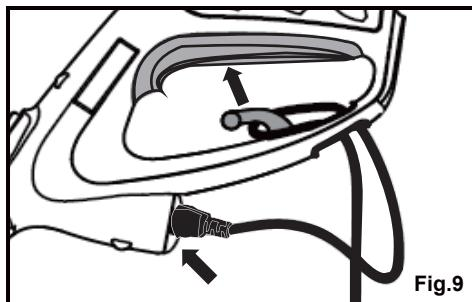

Fig.9
4. To stop the grass trimmer, release the on/off switch (Fig. 9).